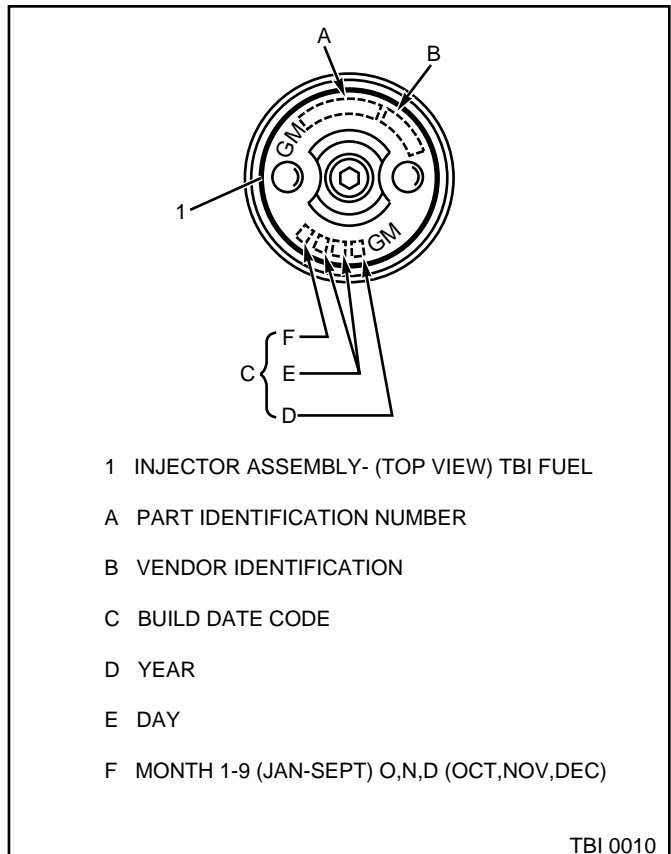

Figure 3-17 - Fuel Injector Part Number Location
- i Be sure to replace the injector with one having an identical part number. Injectors from other models can also fit in the TBI unit, but are calibrated for different flow rates. (Refer to Figure 3-17 for part number location).